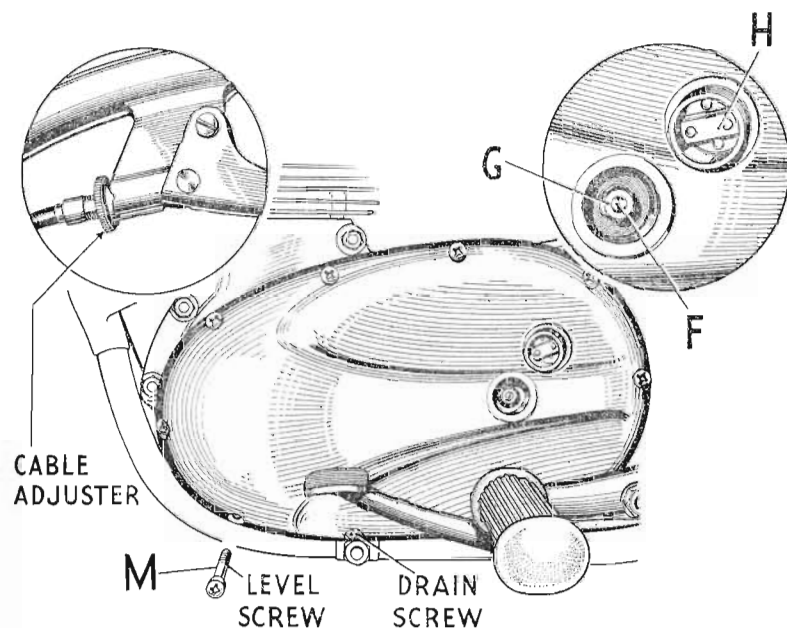

Fig. 13. Clutch adjustment and chaincase oil level.
The main adjustment consists of a screw pin (F) and locknut (G) mounted on the clutch pressure plate. These are accessible after removal of the inspection cover (H) Fig. 13.
If adjustment is necessary, slacken locknut (G) and turn the pin (F) until the above condition is obtained, re-tightening the locknut afterwards. Provision is made for cable adjustment at the handlebar (Fig. 13) and is intended for fine adjustment of the cable only.
The outer cover is retained by screws of three different lengths, and one of these (M) Fig. 13, which is painted red determines the oil level. To replenish with oil, first remove this screw and then the clutch inspection cover (H) Fig. 13, the latter acting as a filling orifice. Add oil of the correct grade (see RECOMMENDED LUBRICANTS, page 34) and allow to stand until any surplus oil has drained away. Replace the level screw and inspection cap. The machine should be on horizontal ground when this operation is carried out. Too little oil will not lubricate the primary chain properly, excessive quantities may cause clutch slip. Note that the screw on the right of (M) is also painted red and is used for drainage purposes.